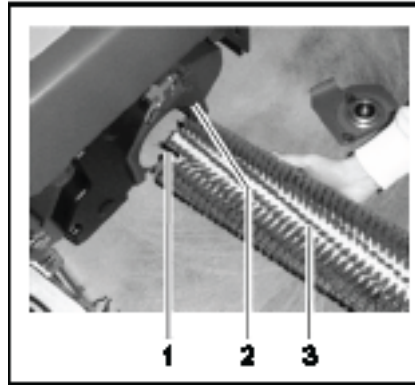

Fig 7
- (1) Catch
- (2) Housing
- (3) Rotary brush
6. Lay one hand under the rotary brush (Fig. 7/3) and slide it together with the catches (Fig. 7/1) into the housing (Fig. 7/2).